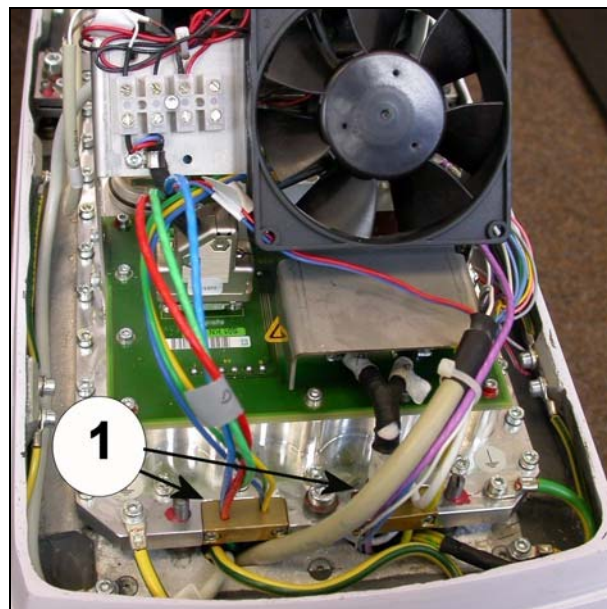

Fig. 18
- Attach the two cable clamps (1/ Fig. 18). Make sure that the cable shields makes good ground contact.